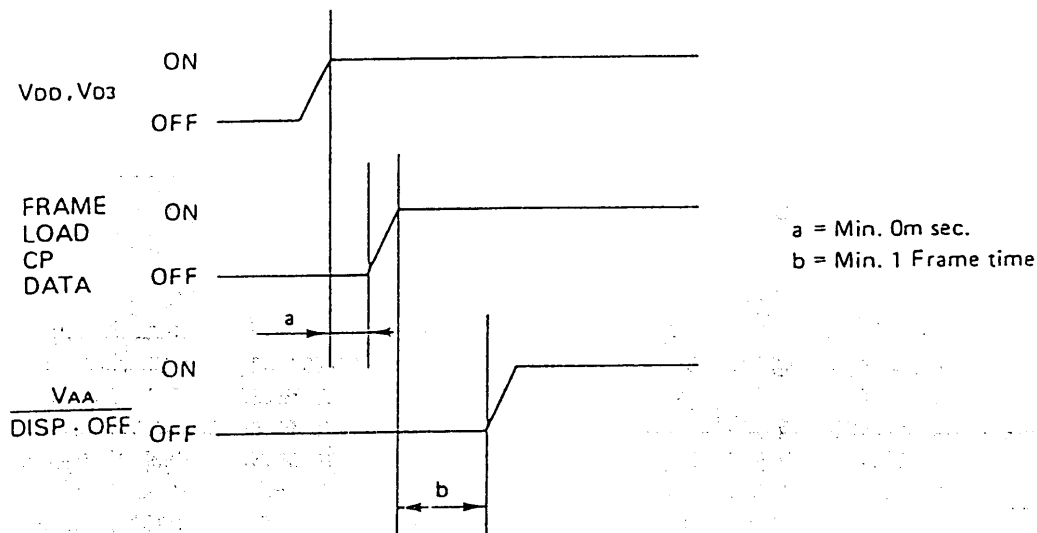

Fig 9-1
- (2) The response of the display is slow when the ambient temperature is below the lower limit, and the display becomes unusual when the ambient temperature is above the upper limit. In any case, it does not mean failure. It operates properly in the normal operating temperature range.
- (3) The contrast of the liquid crystal display varies with the viewing angle, ambient temperature, and drive voltage. Adjust the drive voltage for the best contrast by installing external variable switch.
- (4) If you move the module from a cold storage into the room as during test, moisture would condense on the module and it might fail.
- (5) In order to prevent IC latch-up and DC voltage on the LCD panel, please power on by the following Fig. 9-1.